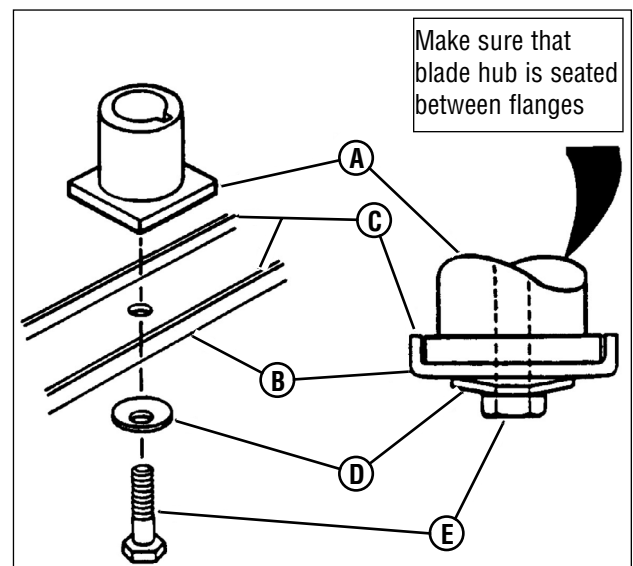

Figure 20: Removing the mower blade
3. Remove the blade (**B**, **Figure 20**).
- Reinstall blade (**B**, **Figure 20**). Note the correct assembly order: